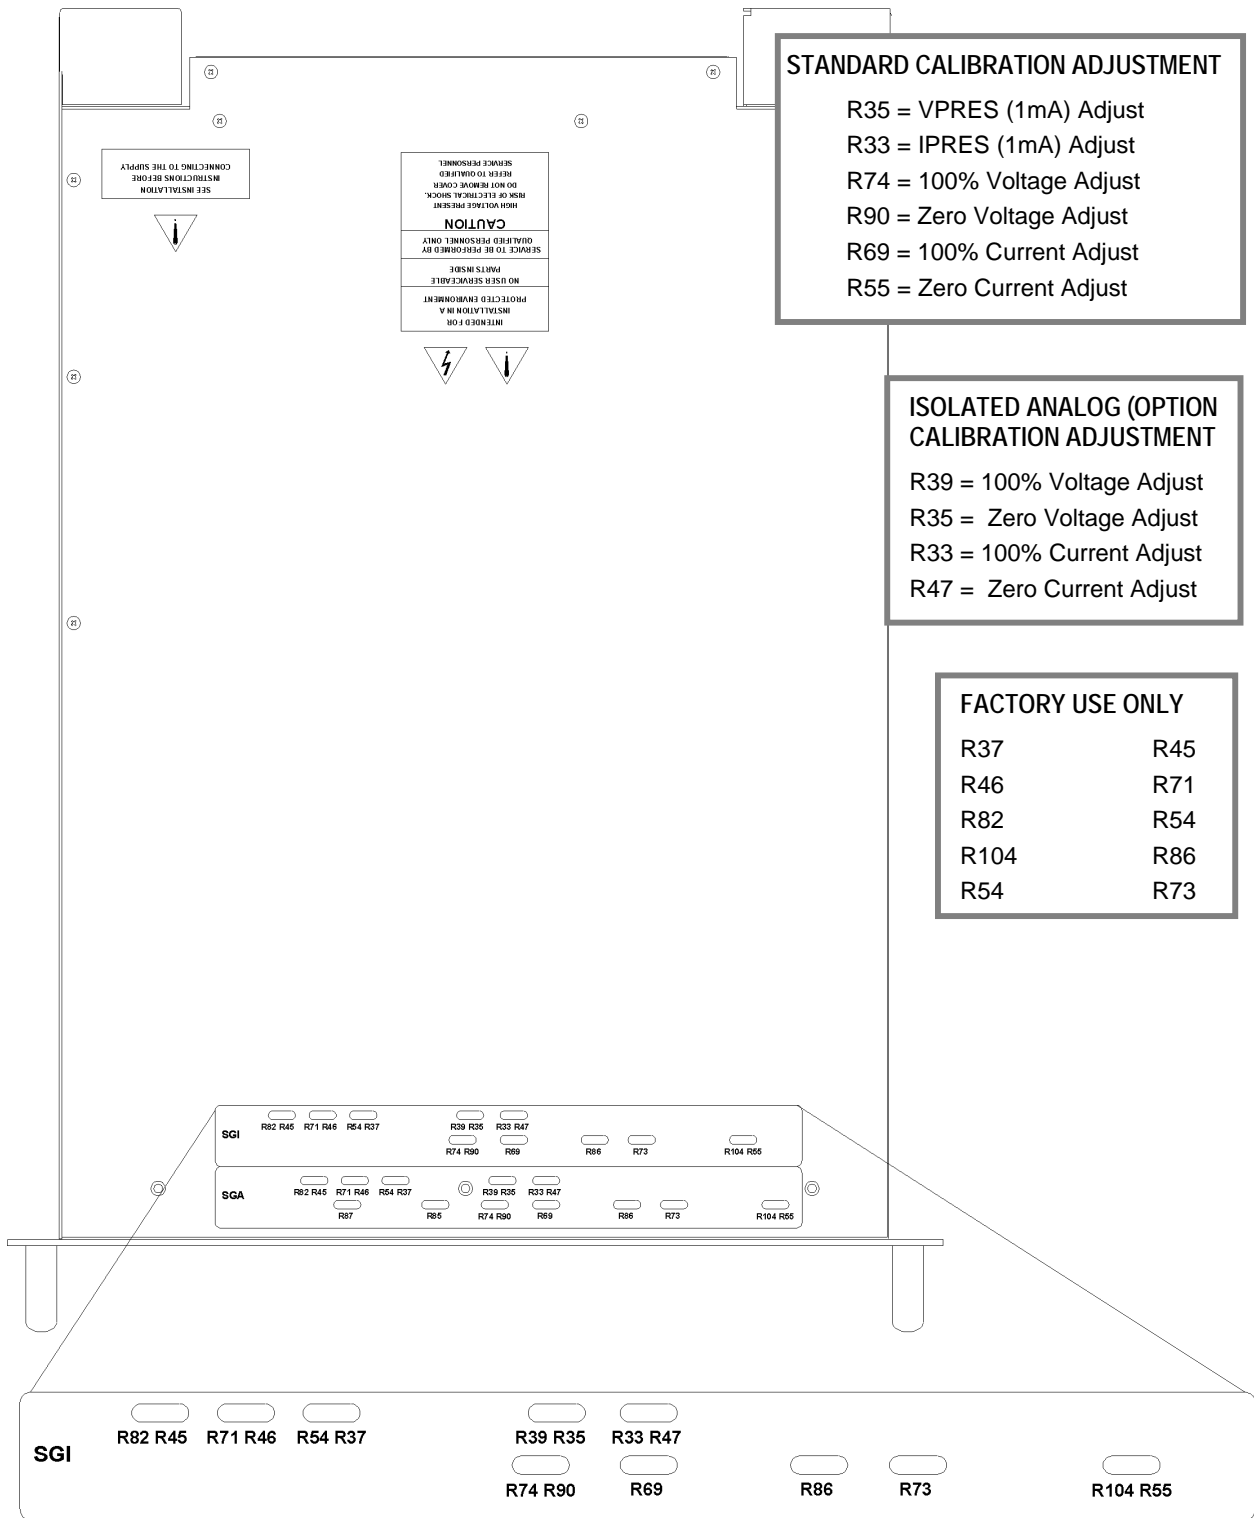

Figure 4-2 Potentiometer Locations
5. Verify that the unit is set to $0V \pm 0.25\%$ of full-scale output voltage. If necessary adjust R35 to obtain zero output volts. (See Figure 4-2.)